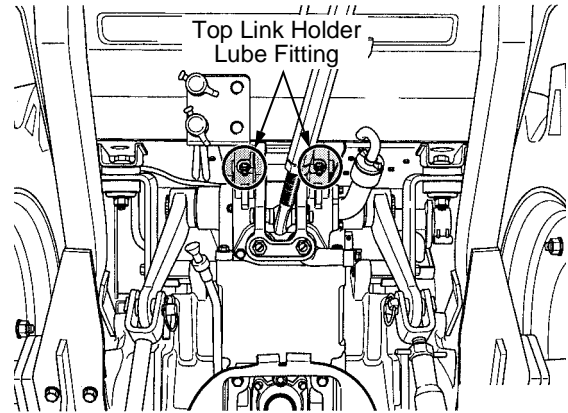

Figure 72
- 3 Point top link holder (each side). See Figure 72.